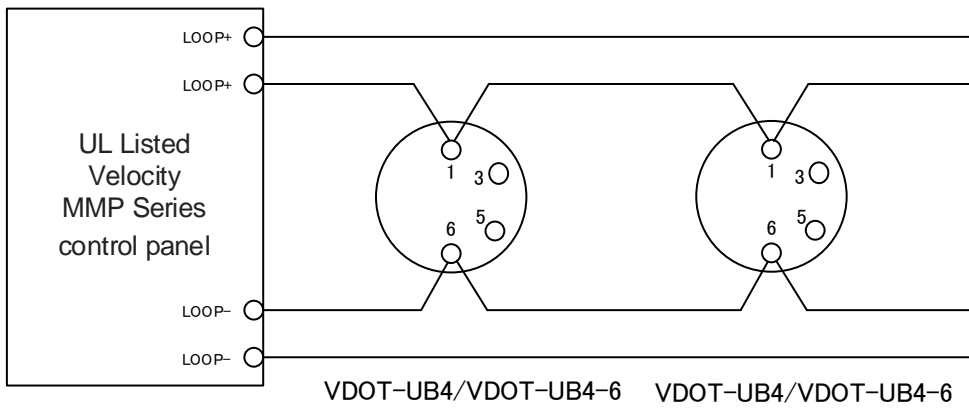
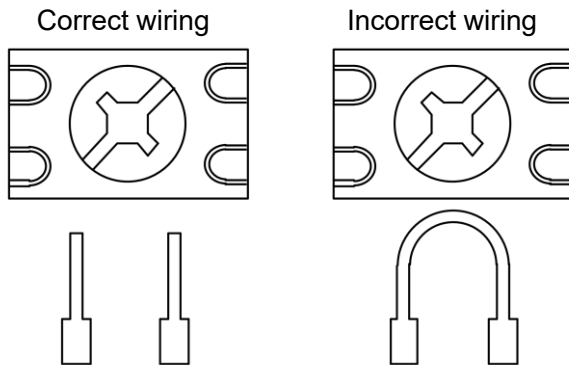

Figure 18: Wiring diagram for VDOT-UB4 and VDOT-UB4-6
Figure 19: Correct and incorrect wiring method
1. Pass the field wiring through the rear center cable opening in the mounting base. Install the base to the electrical box with screws via the base mounting holes. Connect the field wiring to the base terminals, as detailed in Figure 18. Do not use looped wire under terminals (See Figure 19).